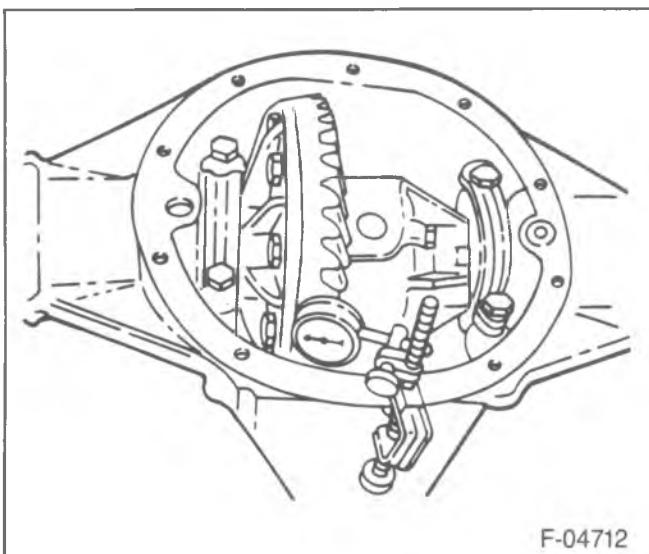

Figure 41—Checking Ring Gear Backlash
- Set the dial indicator so that the stem is in line with the gear rotation and perpendicular to the tooth angle (figure 41).
5. Install the differential caps (10) and bolts (18).